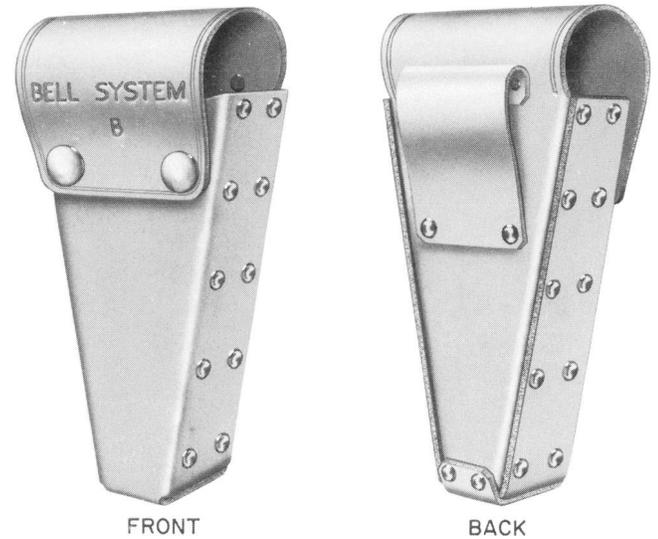

Fig. 4—B Presser Case
4.01 The B presser case (Fig. 4) provides dust and mechanical protection for the D connector presser. The presser case is made of leather and is equipped with a belt loop.